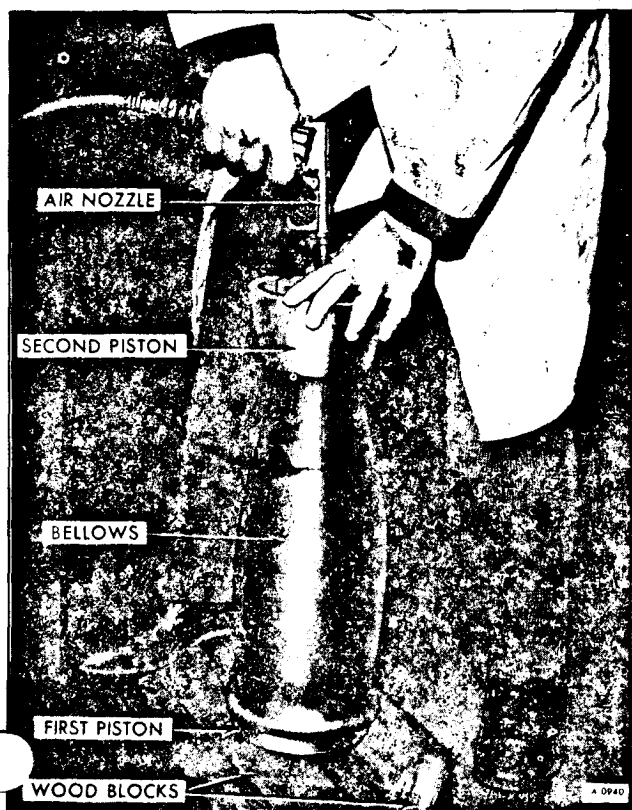
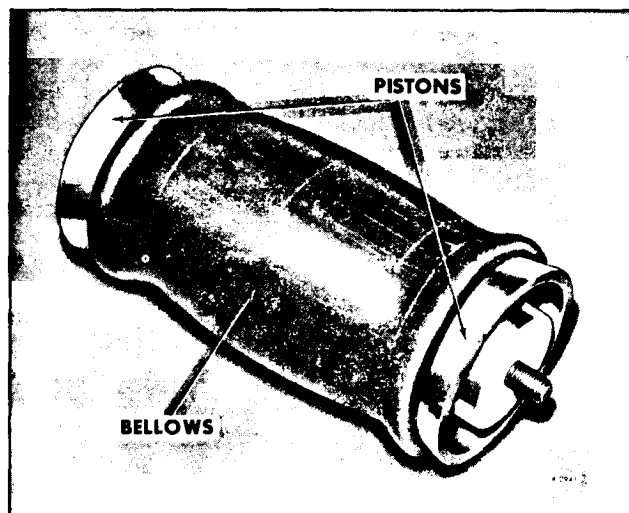

Figure 38—Installing Second Piston on Air Bellows
Figure 39—Air Bellows Assembly
3. Place second piston over top of bellows and apply shop air again as shown in Figure 38. Push down on bellows and release air pressure. Bellows will fold over piston. Completed bellows assembly should appear as shown in Figure 39.